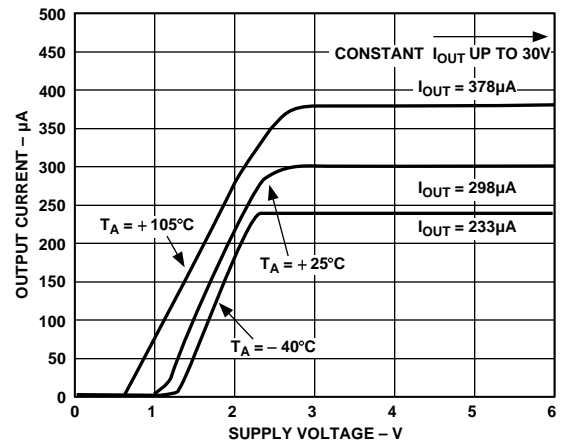

Figure 6. V-I Characteristics
The TMP17 uses a fundamental property of silicon transistors to realize its temperature proportional output. If two identical transistors are operated at a constant ratio of collector current densities,  $r$ , then the difference in base-emitter voltages will be  $(kT/q)(\ln r)$ . Since both  $k$ , Boltzmann's constant, and  $q$ , the charge of an electron, are constant, the resulting voltage is directly Proportional To Absolute Temperature (PTAT). In the TMP17 this difference voltage is converted to a PTAT current by low temperature coefficient thin film resistors. This PTAT current is then used to force the total output current to be proportional to degrees Kelvin. The result is a current source with an output equal to a scale factor times the temperature (K) of the sensor. A typical V-I plot of the circuit at 125°C and the temperature extremes is shown in Figure 6.